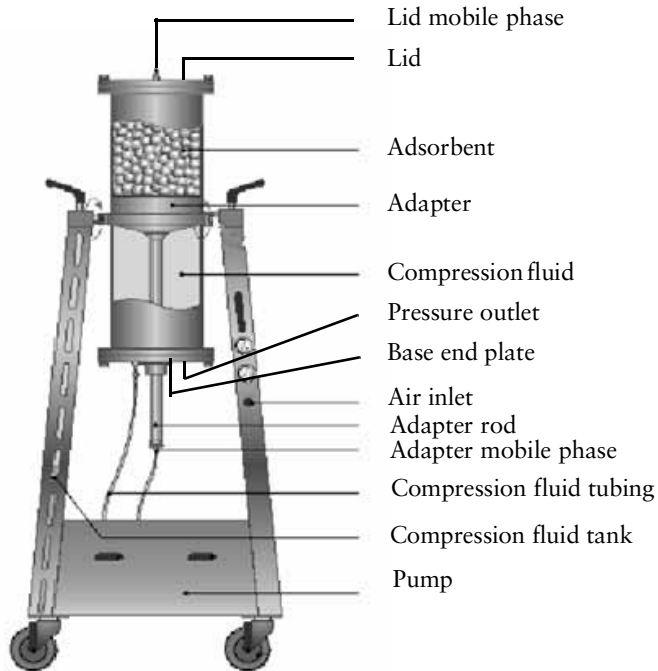

Fig 2-1. General construction of a BioProcess HPLC column.
* For maintenance purposes and ordering of spare parts the HPLC columns are labelled in the upright position, that is with the adapter pushing down into the column. This orientation is used for designating top and bottom of the column. However, the HPLC columns are packed and run in the inverted upright position, that is with the adapter pushing upwards into the column. Thus the 'top' and 'bottom' labels also become inverted. The end plates are thus referred to as the 'lid' and 'base end plate' according to figure 2-1.